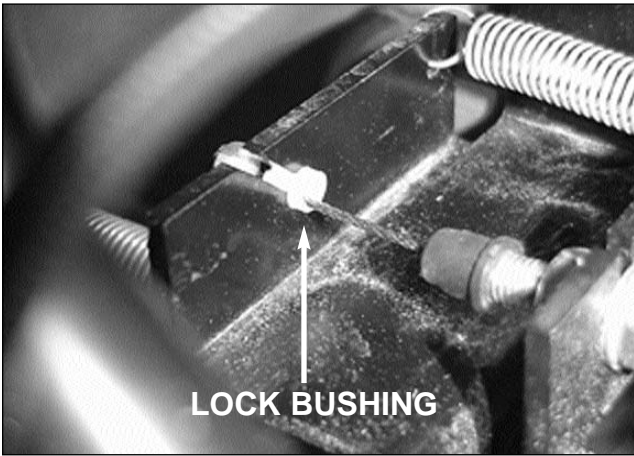

Figure 10 - Throttle Cable
4. Remove cable lock bushing from throttle cable bracket. Early models use pinch weld over this slot in governor arm to prevent cable from popping out of position. Later models use a plastic lock bushing to retain throttle cable in governor arm. See Figure 10.
10. Remove wheel rim mounting nuts, and remove the wheels from transaxle. See Figure 10.